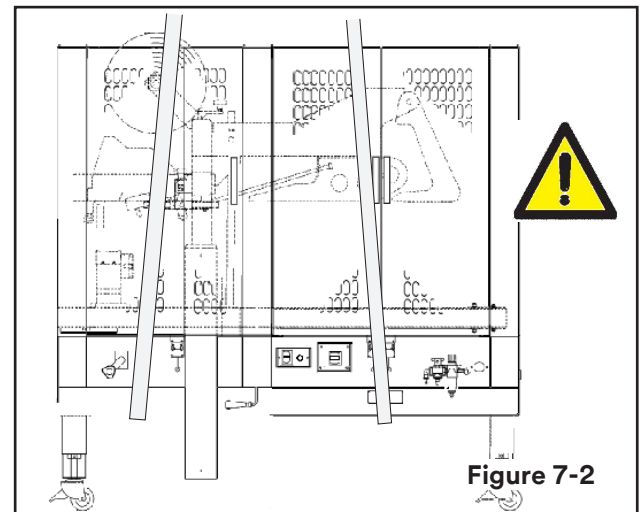

Figure 7-2
1. Lift the machine with belts or ropes or lift truck, paying attention to place belts in the points (Figure 7-2).